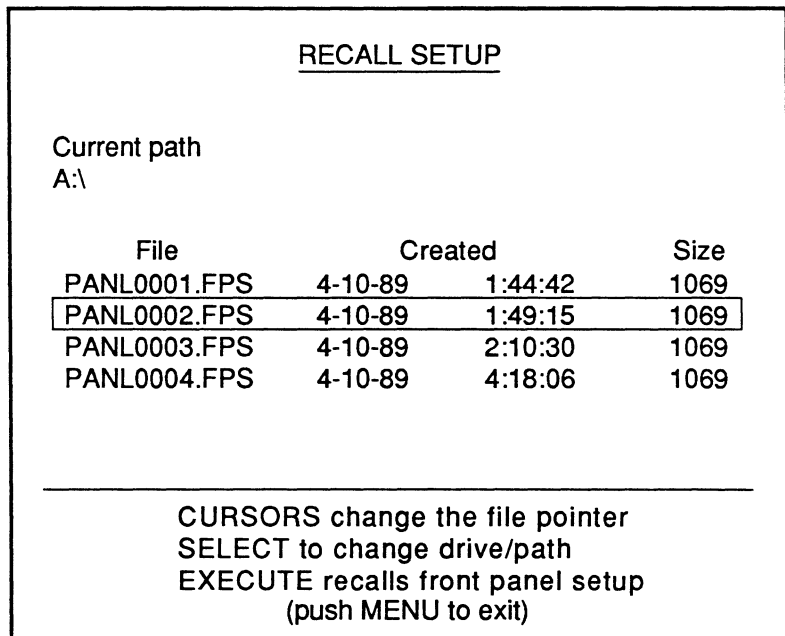

Figure 2 - Recall Setup Screen
1. Execute COPY FILE. The Copy File screen appears (Figure 2).